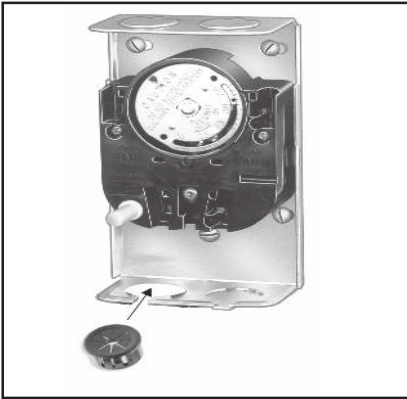

Fig. 6 - Insert strain relief bushing.
2. If cable is used, we recommend using a strain relief bushing in the knockout (Fig. 6). Pass the wires through bushing before connecting.